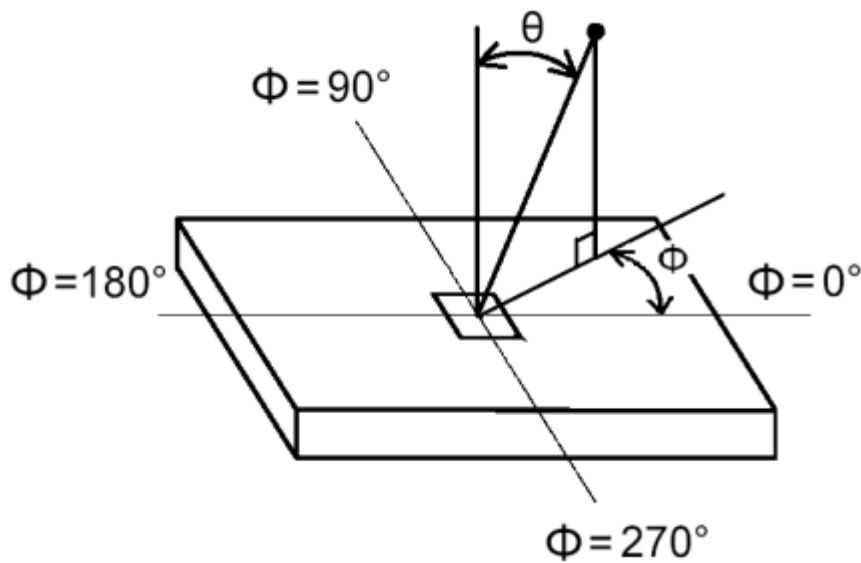

### FIG.3 Response Time
3. Response time is the time required for the display to transition from to black (Rise Time,  $Tr_R$ ) and from black to white (Decay Time,  $Tr_D$ ). For additional information see FIG3.